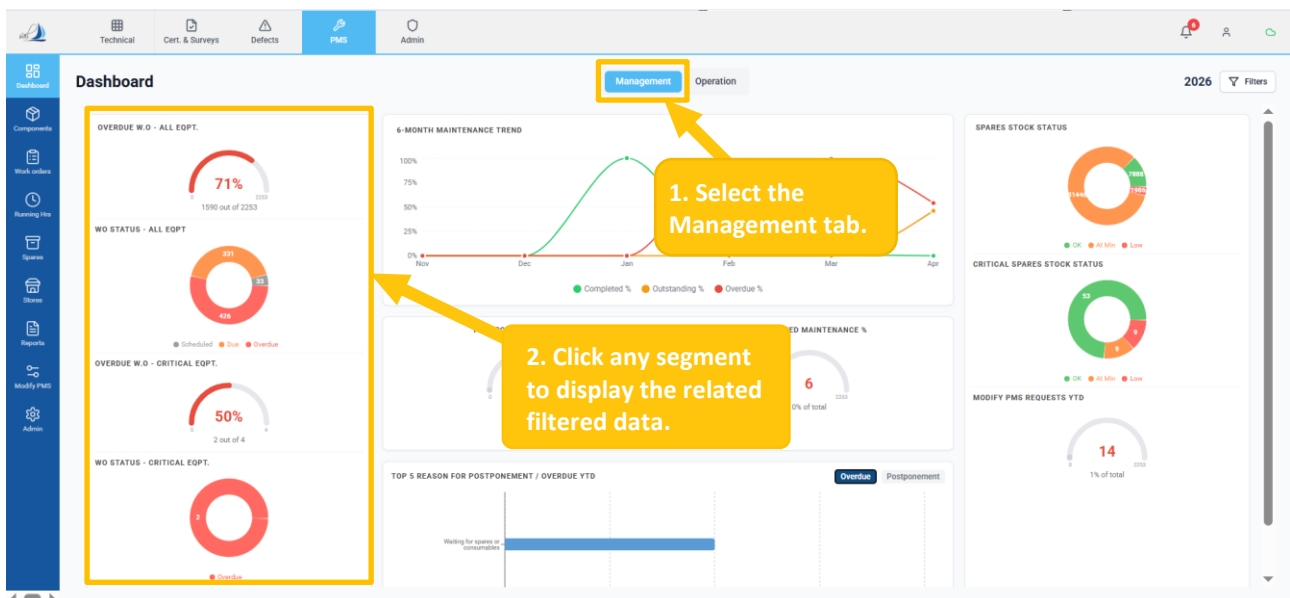

Figure 4
- Click on the 'Management' tab in the header. (Ref Figure 4)
- This section presents work order performance metrics through graphical representations, including percentage values and corresponding counts, supported by color-coded indicators. (Ref Figure 4)